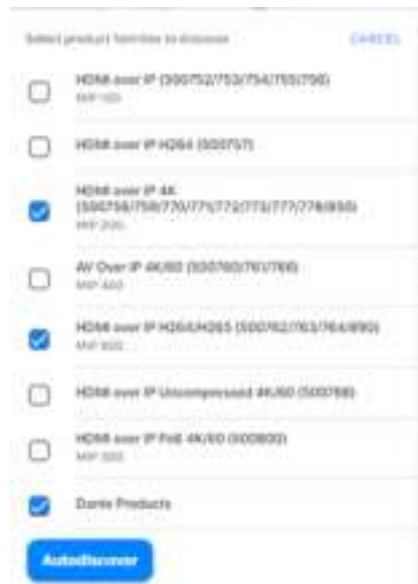

Figure 15
15. Clicking on this button will display a pop-up window where the User can select the category or categories of the devices they are using and search for them on the network. Figure 15